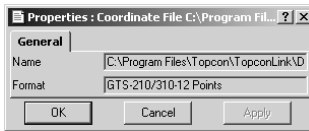

Figure 4-21. Properties for Coordinate File
- Coordinate files – displays the path to the opened file and the file format (Figure 4-21).
- displays name and format data in the General tab (Figure 4-21);